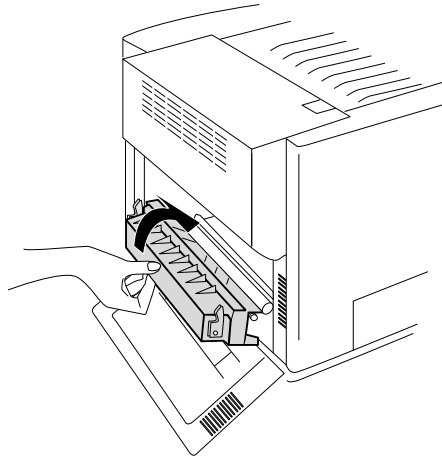

Fig. 6.19 *Close the Transfer Unit*
4. Close the transfer unit (fig. 6.19).